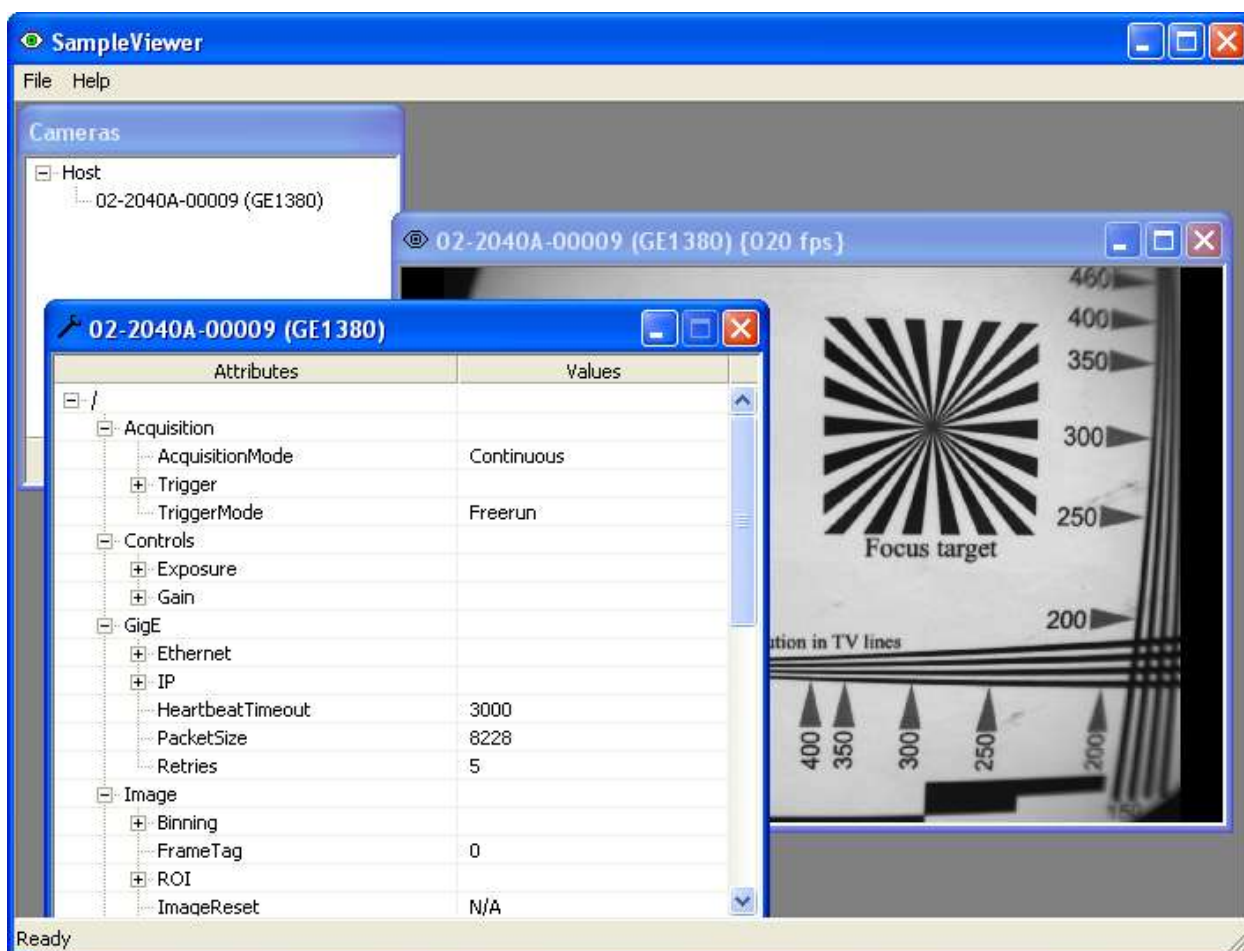

Figure 7. GigE Viewer application window.
- See Figure 7. Select the **wrench** icon to change camera settings. Change the PacketSize to a value of 1500. Select the **eye** icon to image. The camera should now be imaging. If the camera is not imaging, see the Trouble Shooting section of this document. Note that the PacketSize can be set to 8228 if the network card has been optimized to support jumbo frames.